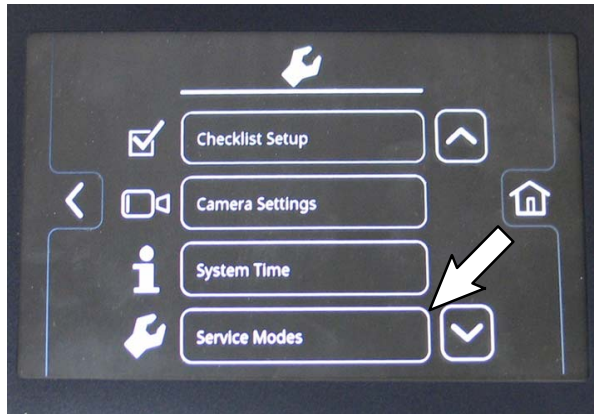

FIG. 24
19. Select the Service Modes button to access the service modes. If necessary use up and down arrows to scroll to the Service Modes button. (Fig. 24)